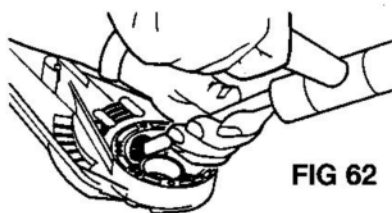

FIG 62
7. With a copper or brass punch (7/16" or 10mm in diameter) about 10" long, hold housing and tap pinion shaft out Fig 62.